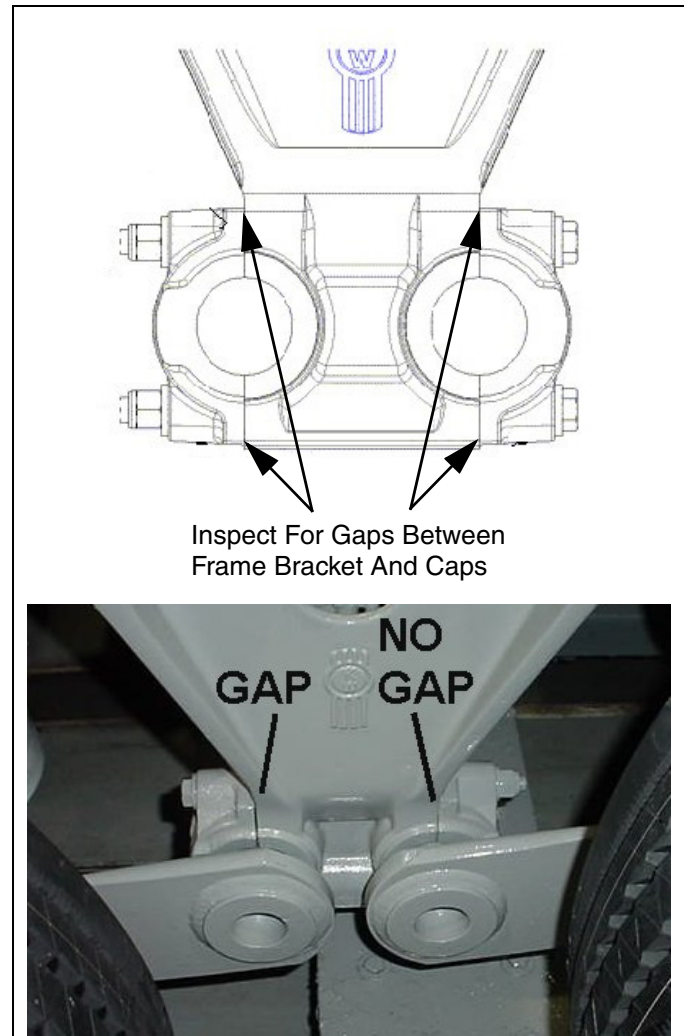

Figure 15-23
- Inspect all joints for gaps between the frame bracket and caps. See Figure 15-23.